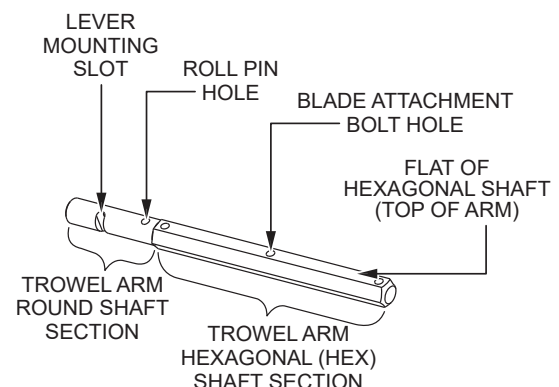

**Figure 70. Trowel Arm Removal**
1. Each trowel arm is held in place at the spider plate by a Zerk grease fitting (hex head bolt) and a roll pin. Remove the Zerk grease fitting and the roll pin from the spider plate (Figure 70).
2. Remove the trowel arm from the spider plate (Figure 70).
3. Carefully remove the trowel arm bushing (Figure 70).